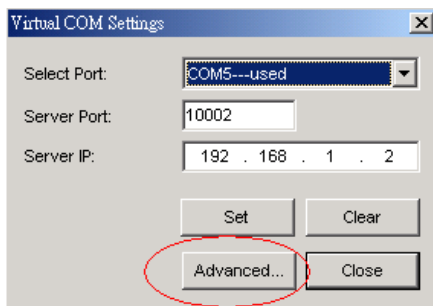

Figure 7 Access Virtual COM (Serial/IP) control panel
- (3) One may select "**Select Port**" and then click "**Set**" to add Virtual COM Port, after configure successful the port selected should change to "**used**" state and "**Advanced button**" should be enabled, one may also click "**Advanced button**" to configure Virtual COM further. (Figure 7)